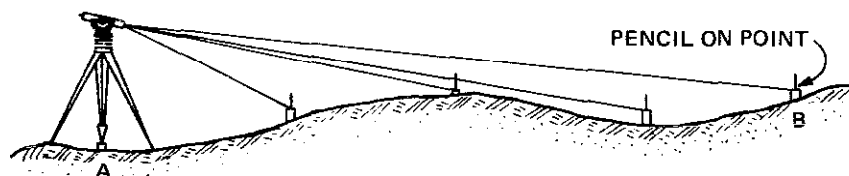

Fig. 5-50 Setting points in a line.
2. Set up at point A (figure 5-50).